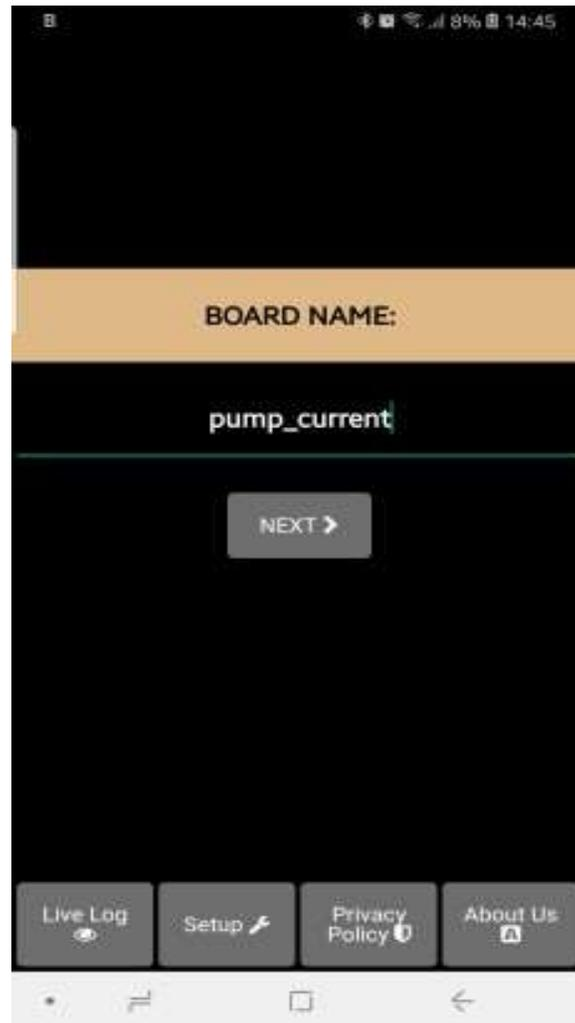
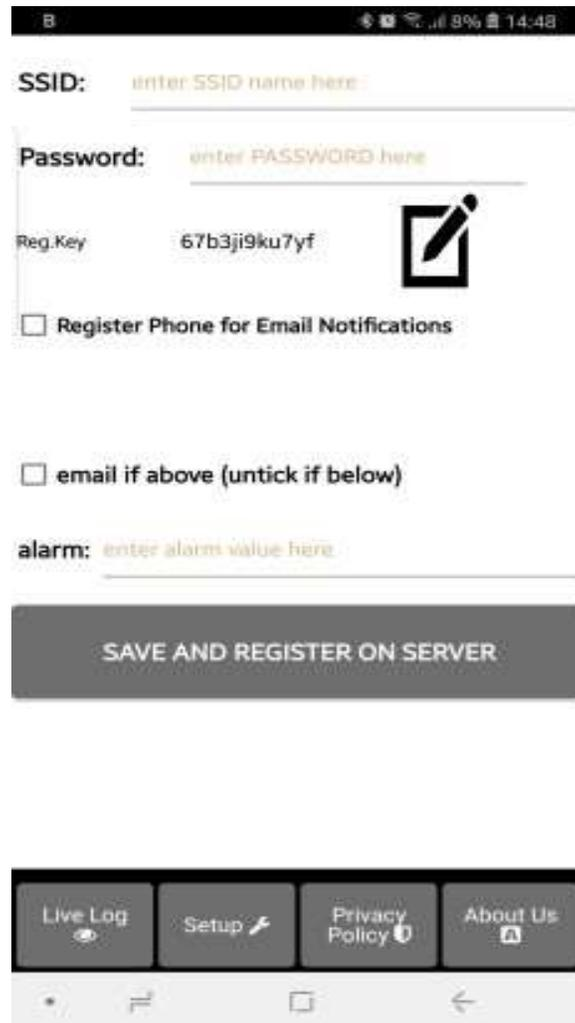

Fig 4.
Fig 5.
7. User is then presented with the next screen where he is prompted to enter a name for the dobona board he chose (Fig.4). Supposing he writes “pump_current” as name and makes sure the phone/tablet has an internet connection, and presses on the next button, he is taken to a new screen to register the board on the server (Fig.5).